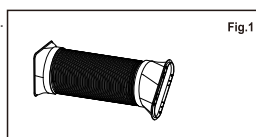
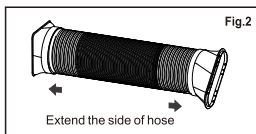
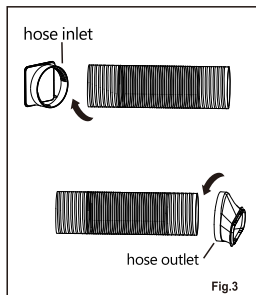

Fig.1
Fig.2
Fig.3
- The exhaust duct assembly has been assembled and does not need to be connected again. Please check.(fig.1)
if you found that the connector is loose or dropped, it can be fixed and connected according to (fig. 2) and (fig. 3).
1. Extend either side of the hose (Fig.1), and screw the hose inlet (Fig.3).
2. Extend the other side of the hose and screw it to the hose outlet (Fig.3).